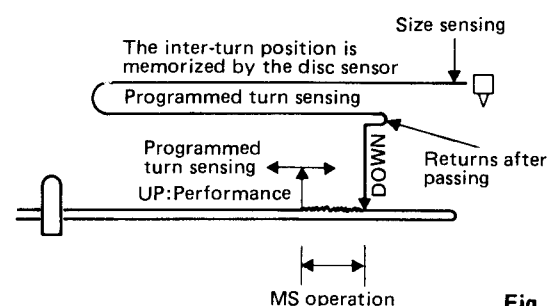

Fig. 1
- 2) When the arm passes the inter-tune, the incident amount of light is increased, but the time constant T is smaller than $R107 \cdot C103$, so the waveform as V_1 shown in Fig. 1 is obtained.